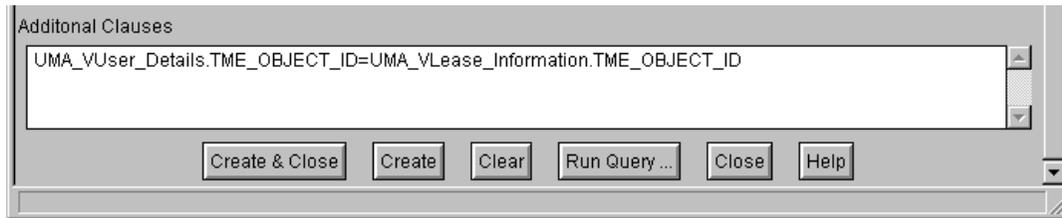

Figure 129. Additional clauses
11. In the Additional Clauses section (scroll to the bottom of the window — see Figure 129), type in the following: